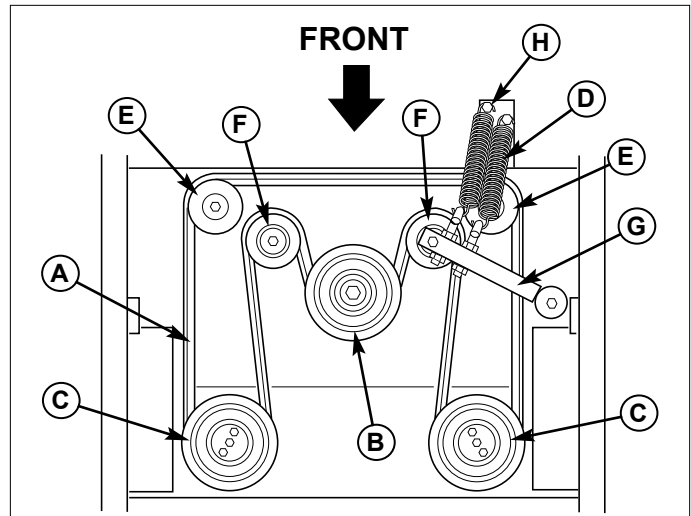

Figure 40. Hydraulic Pump Drive Belt Replacement
3. Remove the nuts fastening the spring anchor bolts (H, Figure 40) to the anchor arm.
4. Remove the old belt and replace it with the new one. Be sure the ribs of the belt are seated correctly in the grooves of the pump pulleys, crankshaft pulley and the ribbed idler pulleys (C, B and E, Figure 40).
5. Reinstall the anchor bolts (H, Figure 40) into the anchor arm and fasten the nuts.